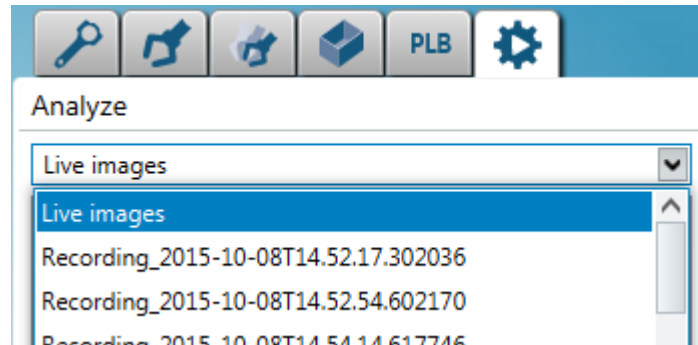

Figure 80: Select images available to analyze
When the **Analyze** tab (B) is selected a list of images (with results) is displayed in the (C) panel. The content of the list depends on the selection in the drop-down control at the top of the panel. Use the drop-down (see figure 80, page 87) to select images that should be available for analysis:
2. Select available images in the drop-down list (see figure 80, page 87).